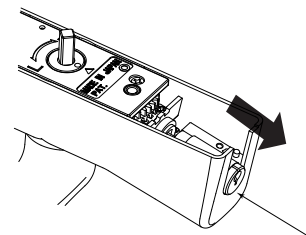

Fig. 8
5. Slide the cylinder (a) downward. Slide it so that the cylinder head rests in the notch at the bottom of the main unit. (Fig. 8)